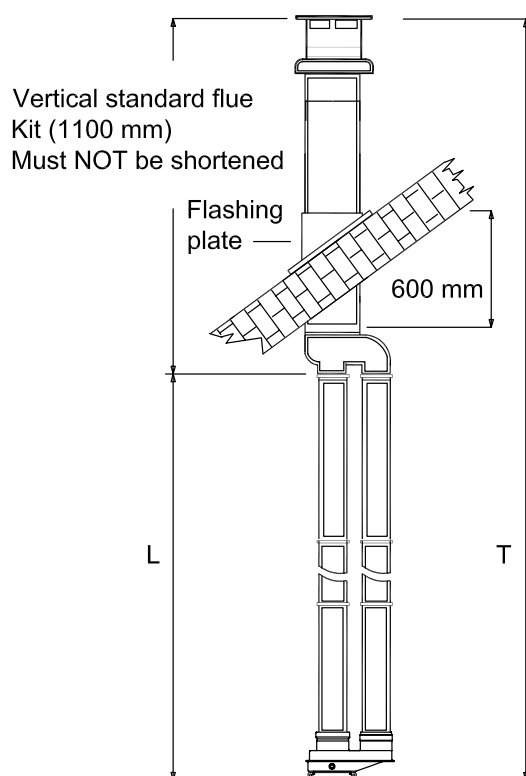

Fig. 24
5.15 Exhaust/suction system with concentric pipes for flat or sloping roofs. Extensions with two separate pipes (fig. 24).